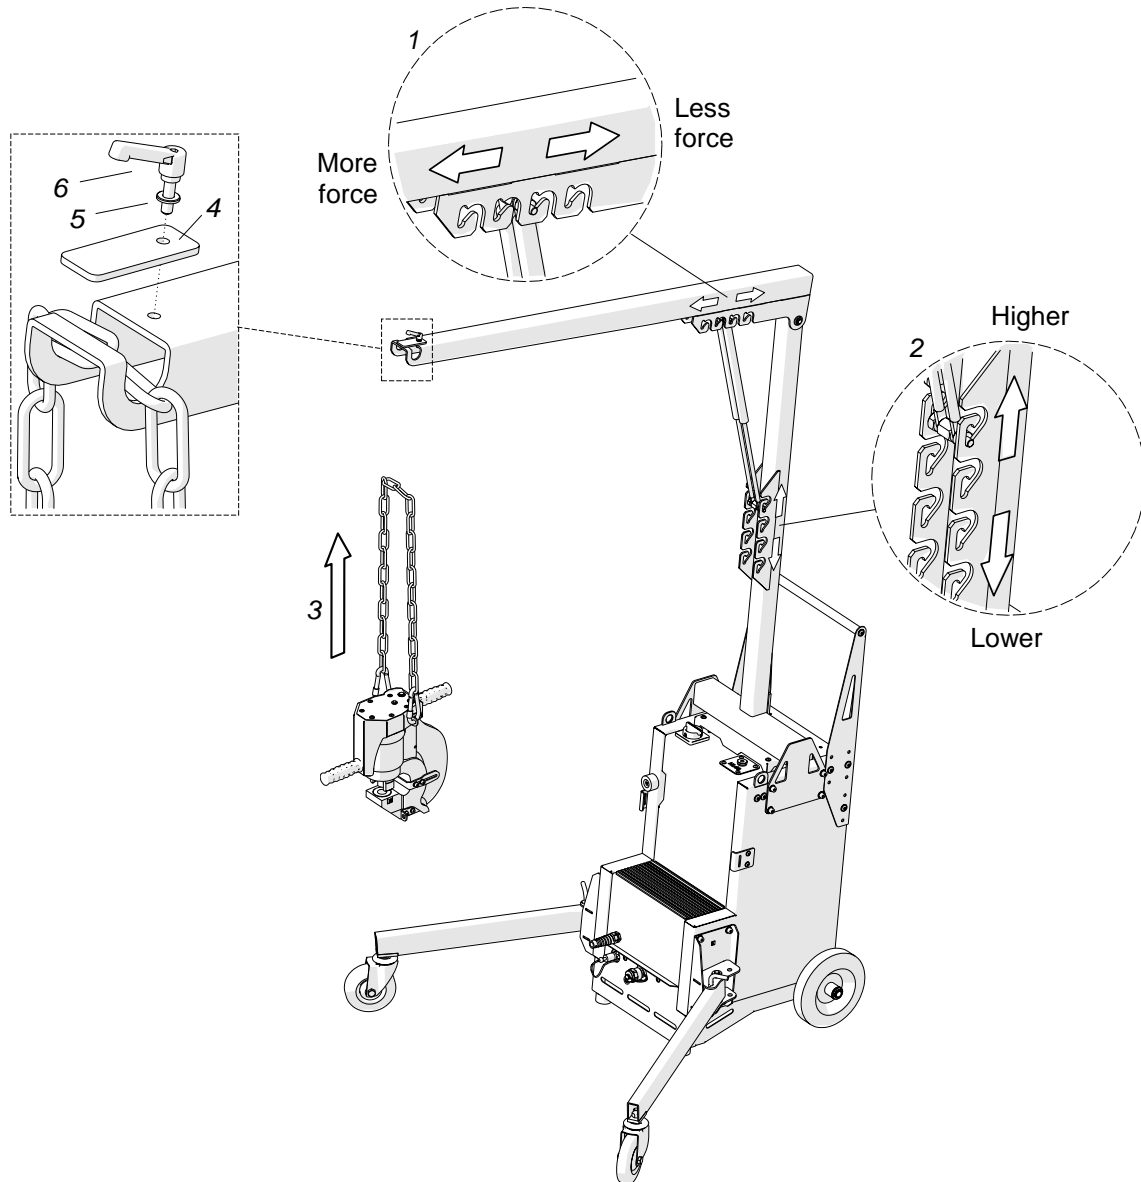

**Fig. 13.** Mounting the crane base and the supports
To mount the crane, screw the crane base into top holes on both power pack sides with eight M8x16 screws and 8.5 mm washers (1, Fig. 13) using the 6 mm hex wrench. Place the locking pins into the supports in position shown in detail 2 and use next eight M8x16 screws and 8.5 mm washers (3) to screw the supports into lower holes of the power pack. Then, remove the pins, slightly tilt the power pack backwards, and rotate the supports according to the arrow direction 4 to rest the power pack on the support wheels. Lock the supports in this position by placing the pins in location 5.